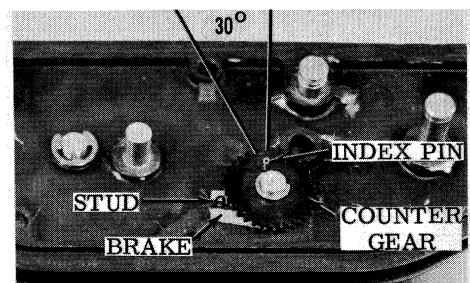

Figure 2. PIN AND BRAKE ALIGNMENT
4. After replacing bottom cover (34), latch should operate smoothly, without excessive force, and should snap into the locked position when released.
5. Carefully file set screw burrs from drive roller (31) shaft.
6. Assemble idler roller (32) and drive roller (31) to carriage.
7. Secure gear plate assembly (30) to carriage with support (29).
8. Spool spindle (26) must rotate freely.
9. When replacing main gear assembly (24), position with retainer side down.
10. Rounded end of pin (23) seats in hole of gear (24).
11. Assemble spring (22) to hub (21) and engage spring hook in slot of hub.
12. Replace hub (21) with long edges of pads parallel to rear edge of plate assembly (30).
13. Hold hub stationary and rotate gear (24) clockwise until it stops. Hub and gear (24) must remain in this position.
14. Assemble brake (19) to gear assembly (18) and position so brake slot is engaging stud on gear plate assembly as shown in Figure 2.
15. Rotate counter gear assembly (18) to locate index pin within  $30^\circ$  arc as shown in Figure 2. Pin must remain within this arc.